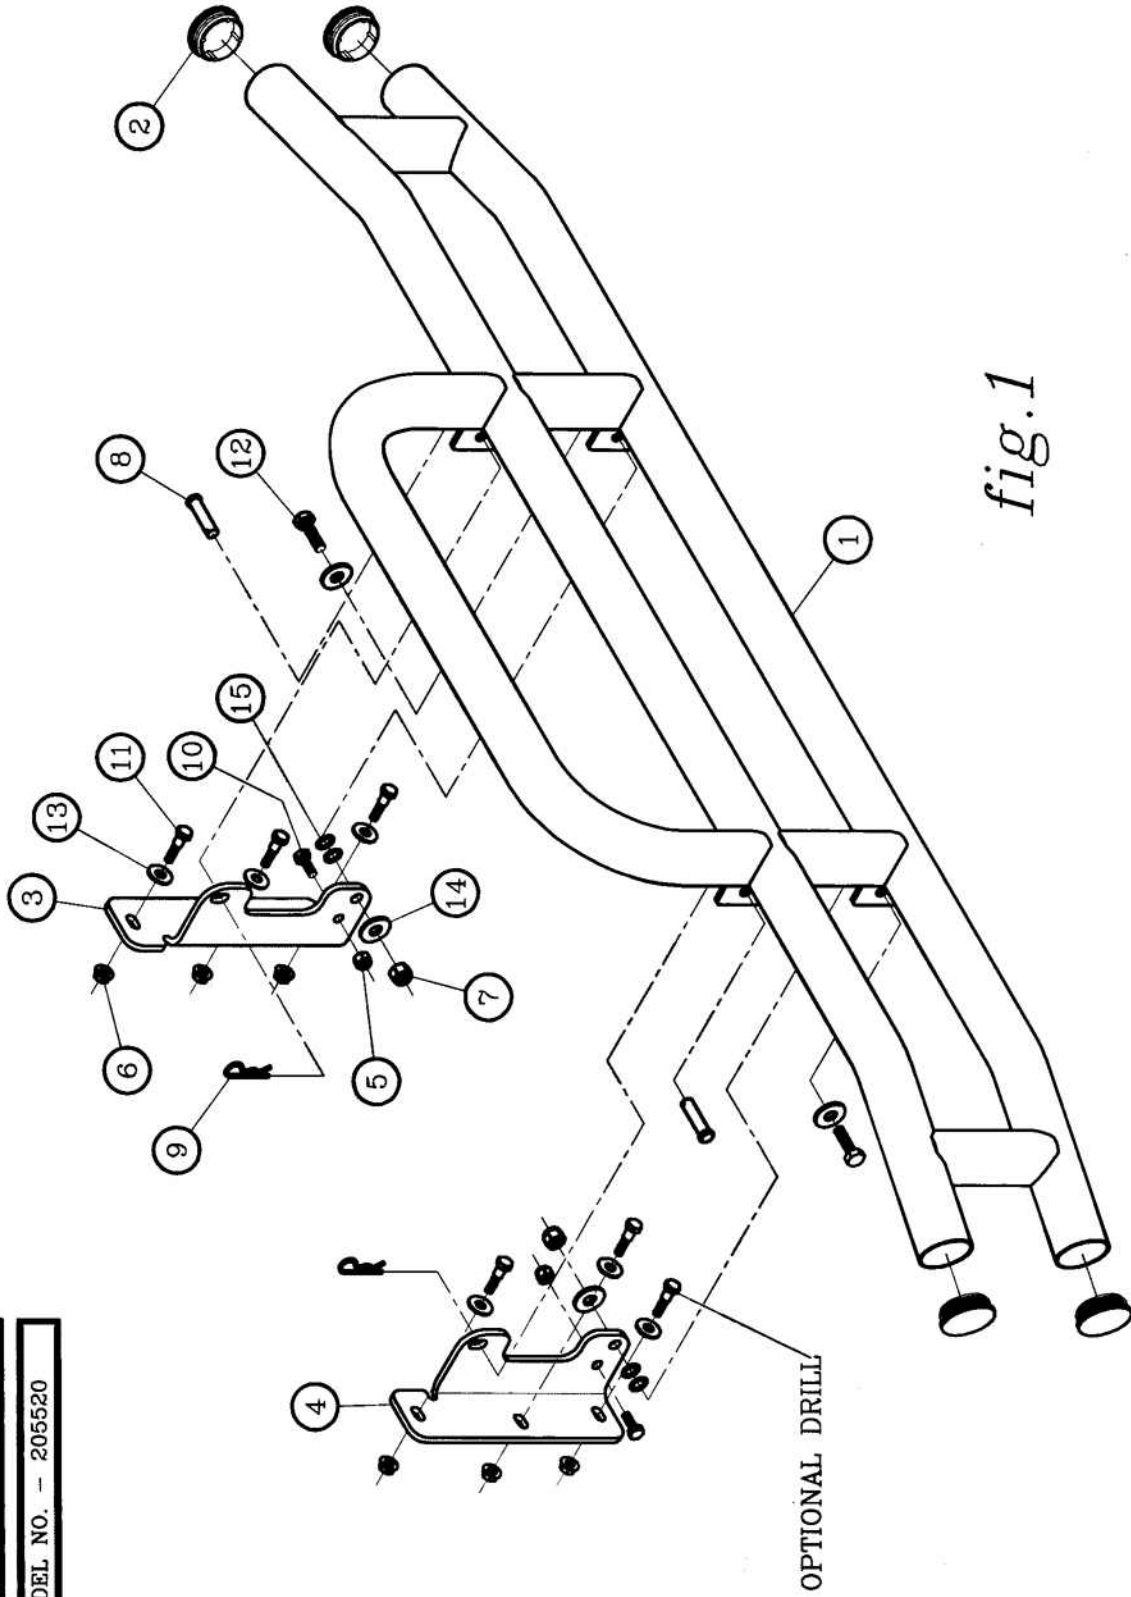

fig.1
2. INSTALL THE MOUNTING BRACKETS (ITEMS #3 & #4), USING THE 1/2-13 X 2" HEX BOLTS (ITEM #11), 1/2" FLAT WASHERS (ITEM #13), AND 1/2-13 SERRATED FLANGE NUTS (ITEM #6) AS SHOWN IN FIG. 1. HAND TIGHTEN ONLY AT THIS TIME, TO BE ADJUSTED LATER.